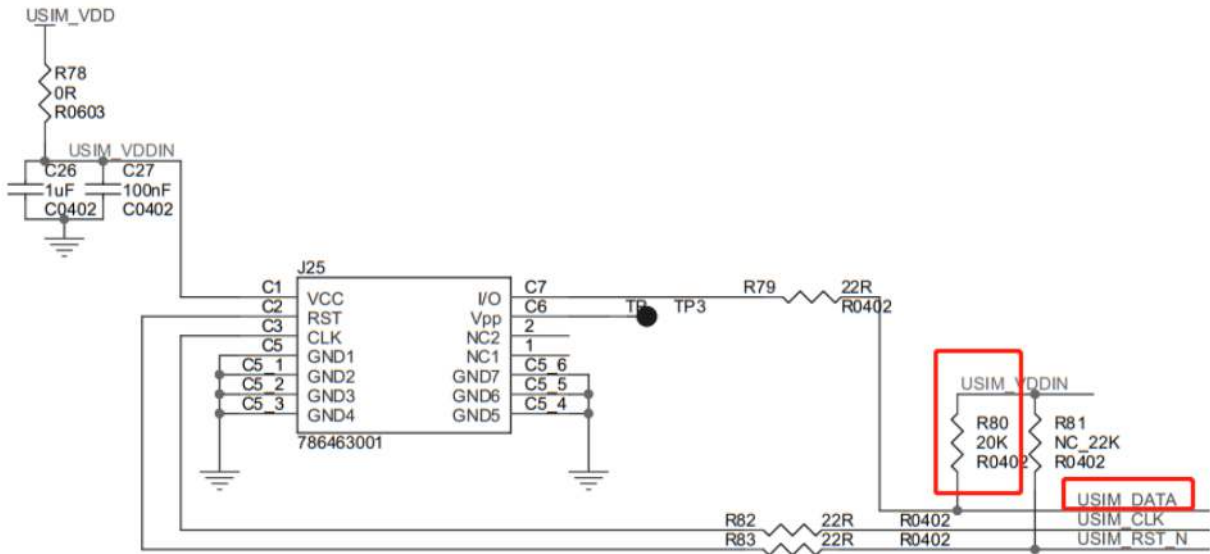

Figure 14 The SIM card reference circuit
1) The SIM DATA pin is recommended to add a typical value of 20K pull-up resistor, without adding the pull-up resistor may have a risk that some SIM cards can not be correctly identified, and affecting the communication. The reference circuit is shown in Figure 14.